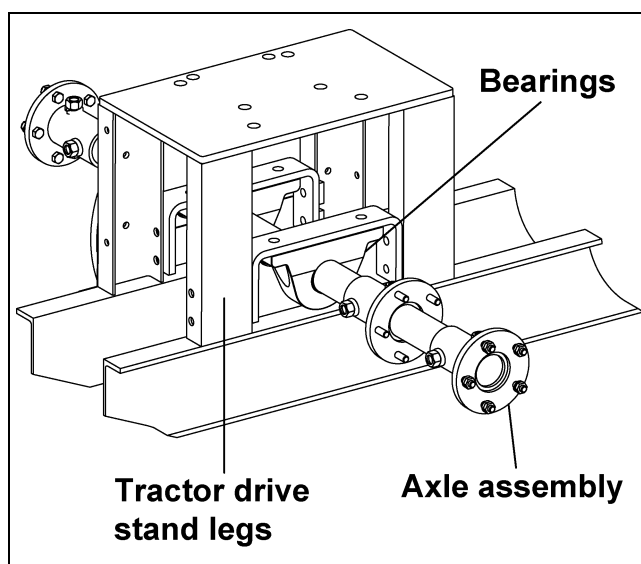

Figure 5I
- C. Slide the axle assembly between the legs of the tractor drive stand as shown in Figure 5I.
- D. Rotate the pillow block bearings until the bases are facing up. (See Figure 5I.)